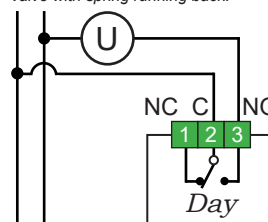

Fig. 2
- Fix the "**Basket**" in the "**Recessed Box**" with the appropriate screws supplied (Fig.2).